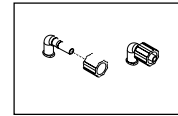

Figure 2-5
2. Assemble elbow fittings (optional) as shown in figure 2-5.